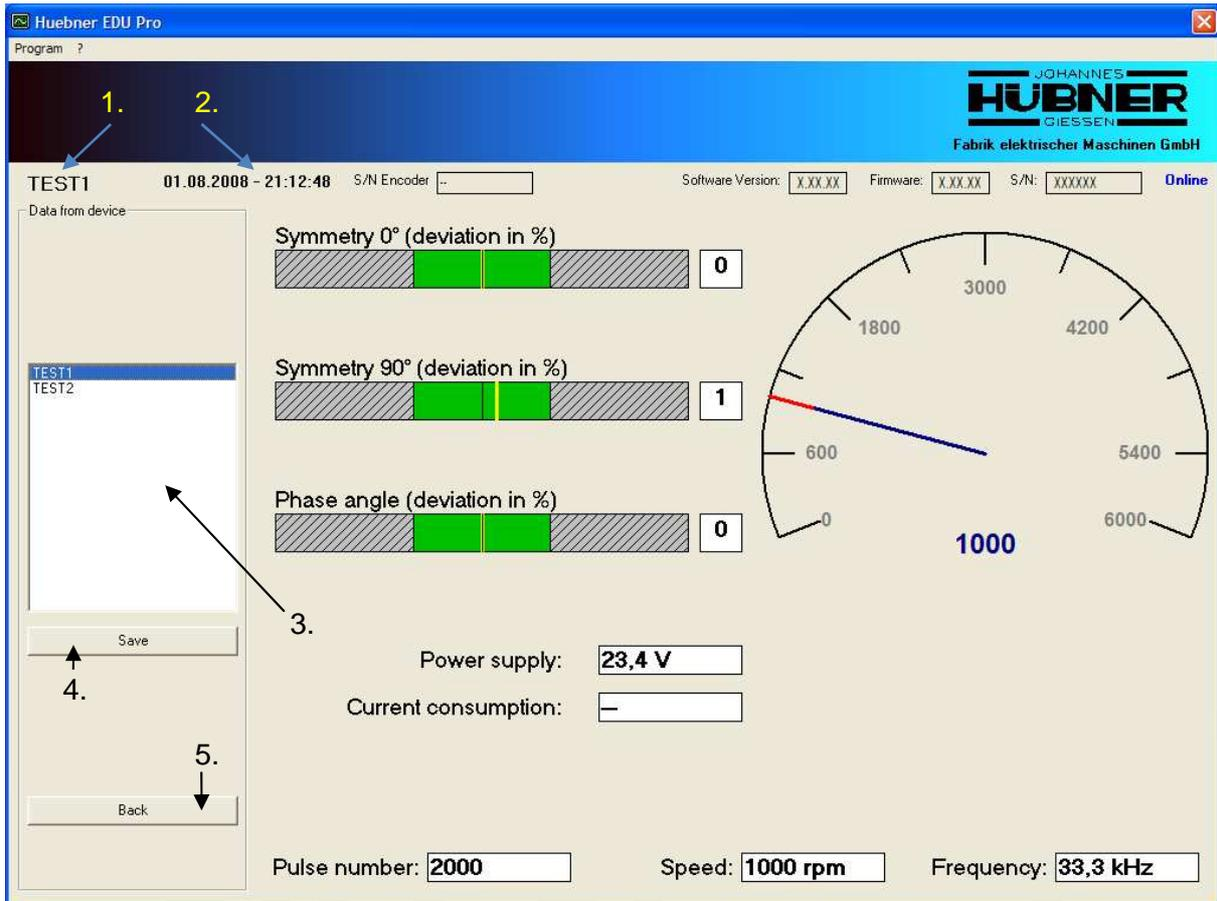

Fig. 16: Files of the EDU100 memory
5. – Button “Data from device”. Continue Fig. 16.